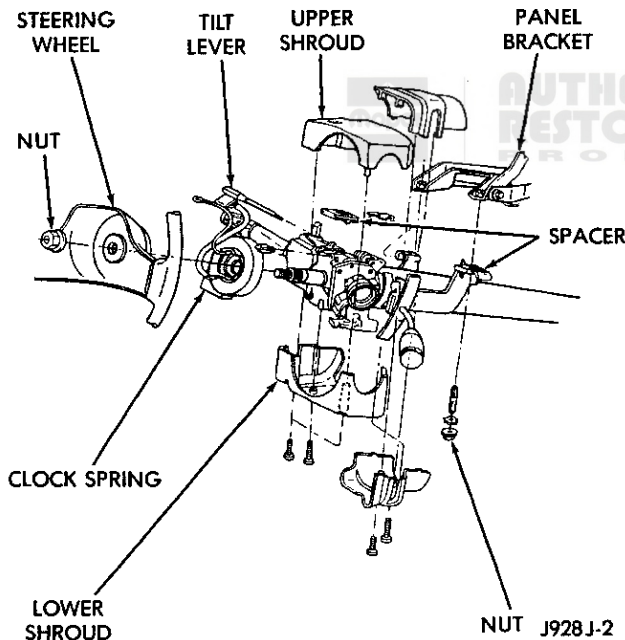

Fig. 1 Shroud Removal/Installation
- (1) Disconnect negative battery cable.
- (2) Tilt column: Remove tilt lever (counterclockwise).
- (3) Remove upper and lower shrouds (Fig. 1).
(3) Assemble shrouds to the column (Fig. 1). Tighten retaining screws to 2 N·m (17 in. lbs.) torque.
(4) Tilt column: Install tilt lever (clockwise).
(5) Install negative battery cable.
(6) Install key cylinder.